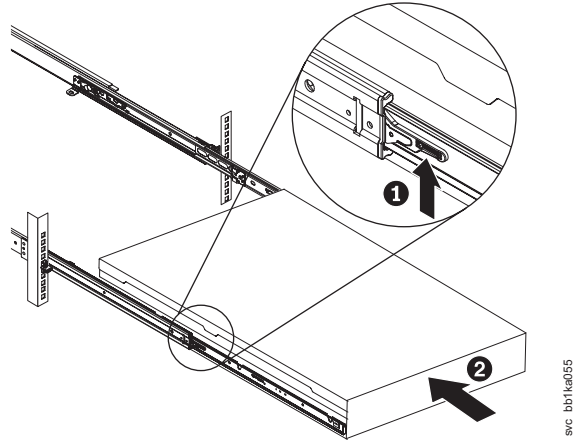

Figure 240. Raising the SAN Volume Controller 2145-CF8 locking levers of the slide rails of the rack
11. Lift the locking levers (**1** in Figure 240 on page 254) on the slide rails and push the server **2** all the way into the rack until it clicks into place.